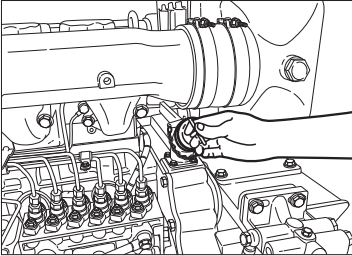

Figure 4.4
2. Engine oil can be filled from the filling port provided near the Fuel Injection Pump. Refer figure 4.4, 4.5 & 4.6